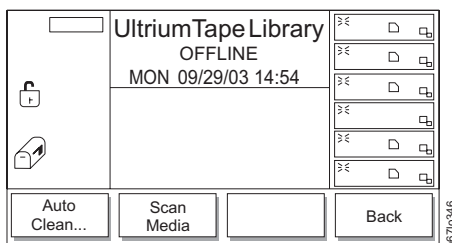

Figure 4-82. More Dialog
3. Press the button below the **More** softkey. The More Dialog displays (see Figure 4-82).
6. Press the button below the **OK** softkey. The library enables or disables automatic cleaning and redisplay the More Dialog (see Figure 4-82 on page 4-49).